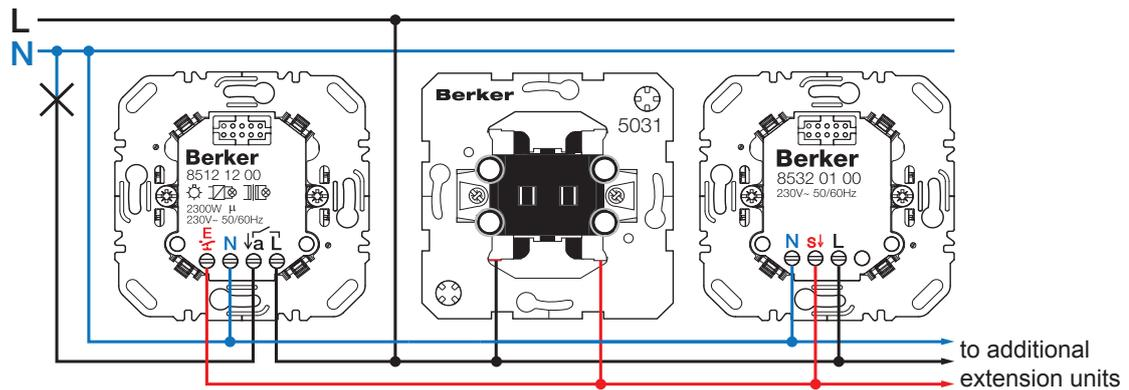

Figure 3: Circuited diagram with extension unit
- Circuit switch insert and optional extension units according to the circuited diagram (Figure 3 or 4).